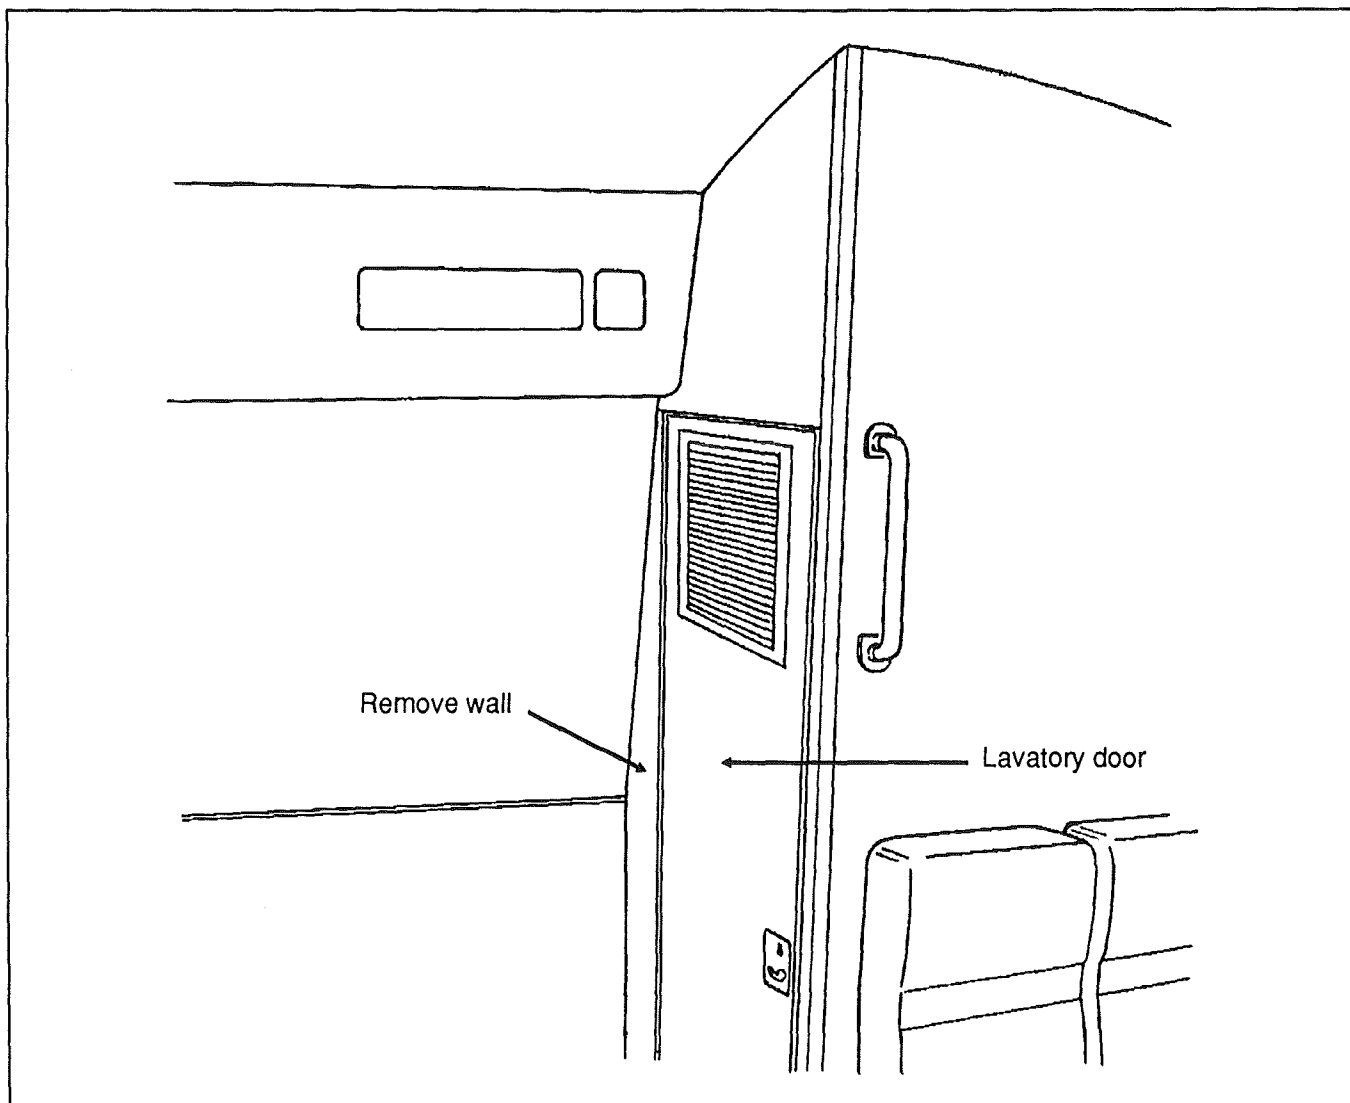

FIG. 18
1. From outside the lavatory, remove the nine (9) snap caps and retaining screws from the outer lavatory wall located beside the lavatory door (see fig. 18), then remove the wall in order to gain access to the switch electric connections.
3. From inside the lavatory, remove the two (2) Phillips head screws retaining the emergency call switch to the lavatory inner wall, then remove the switch from outside the lavatory.